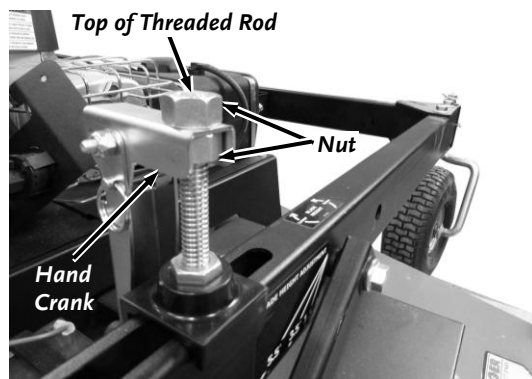

Figure 14
12. Install a Nut at the top of the Threaded Rod, followed by the Hand Crank and then another Nut (**Figure 14**).